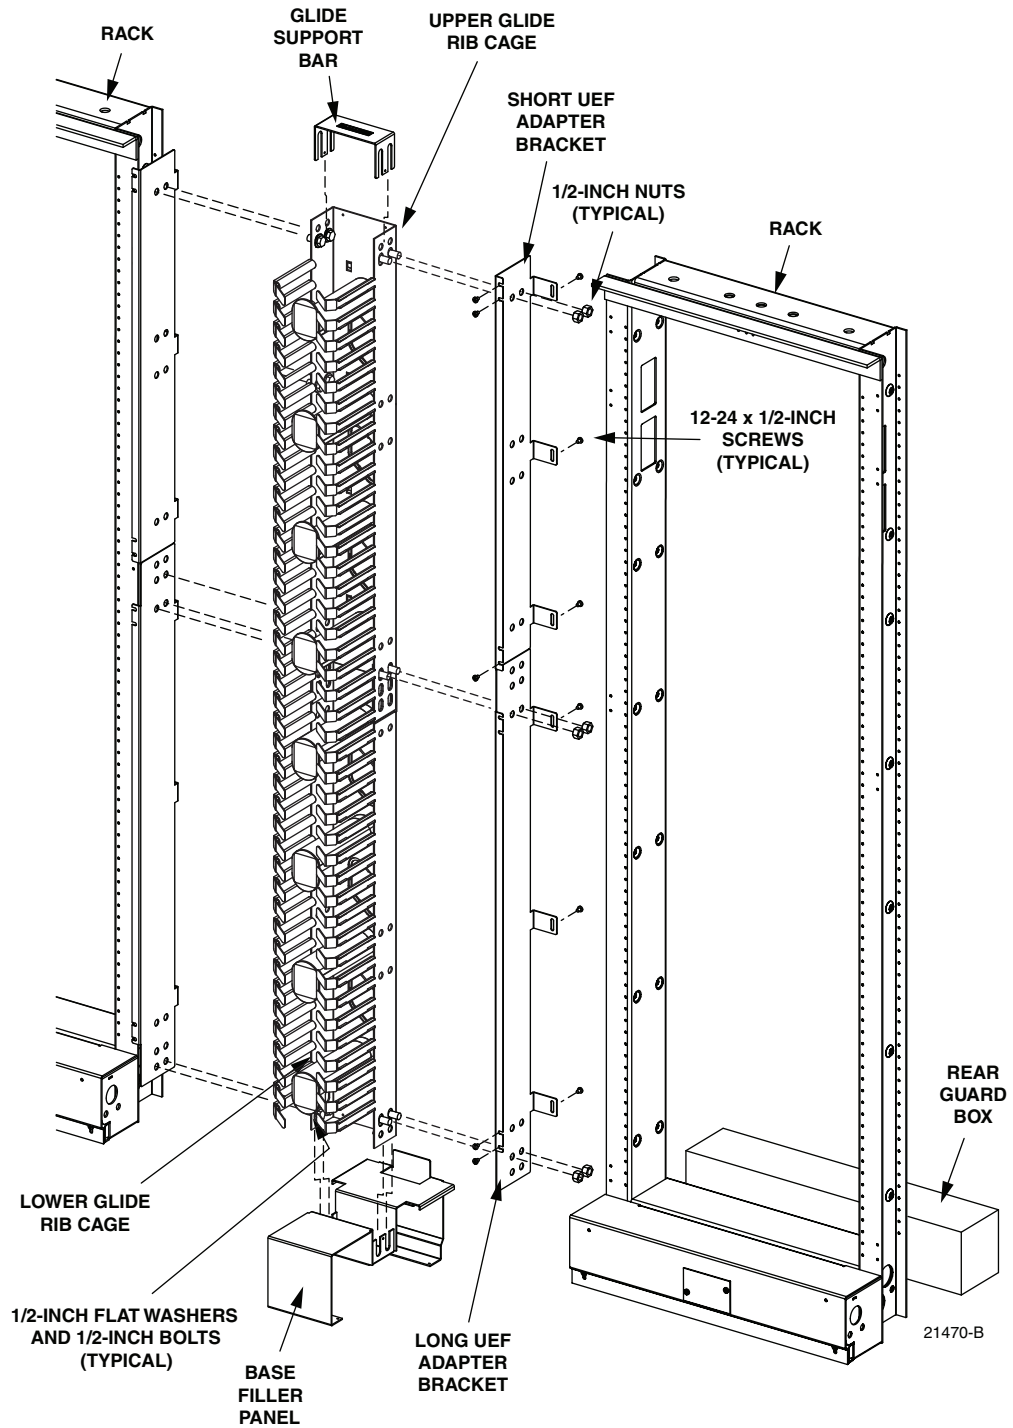

Figure 4. Unequal Flange Glide Cable Management System Assembly
Left side assembly is similar to the right side the difference is that you are working from the other side. Refer to Figure 4 for an illustration of the assembly.
1. Place a 1/2-inch flat washer on two 1/2-inch bolts. Insert bolt and washer assemblies through two of the slotted holes in the top of the upper glide rib cage. Stepped end of upper glide rib cage is the bottom and will point down, when installed on the rack. See Figure 4.
8. Place a 1/2-inch flat washer on two 1/2-inch bolts. Insert these bolts through two lower unused slotted holes in the glide rib cage and longer UEF adapter bracket. See Figure 4. Thread a 1/2-inch nut on each bolt, leave nuts finger tight.
13. Place 1/2-inch flat washers on seven 1/2-inch bolts. Insert the bolts through the appropriate holes in glide assembly. See Figure 4.